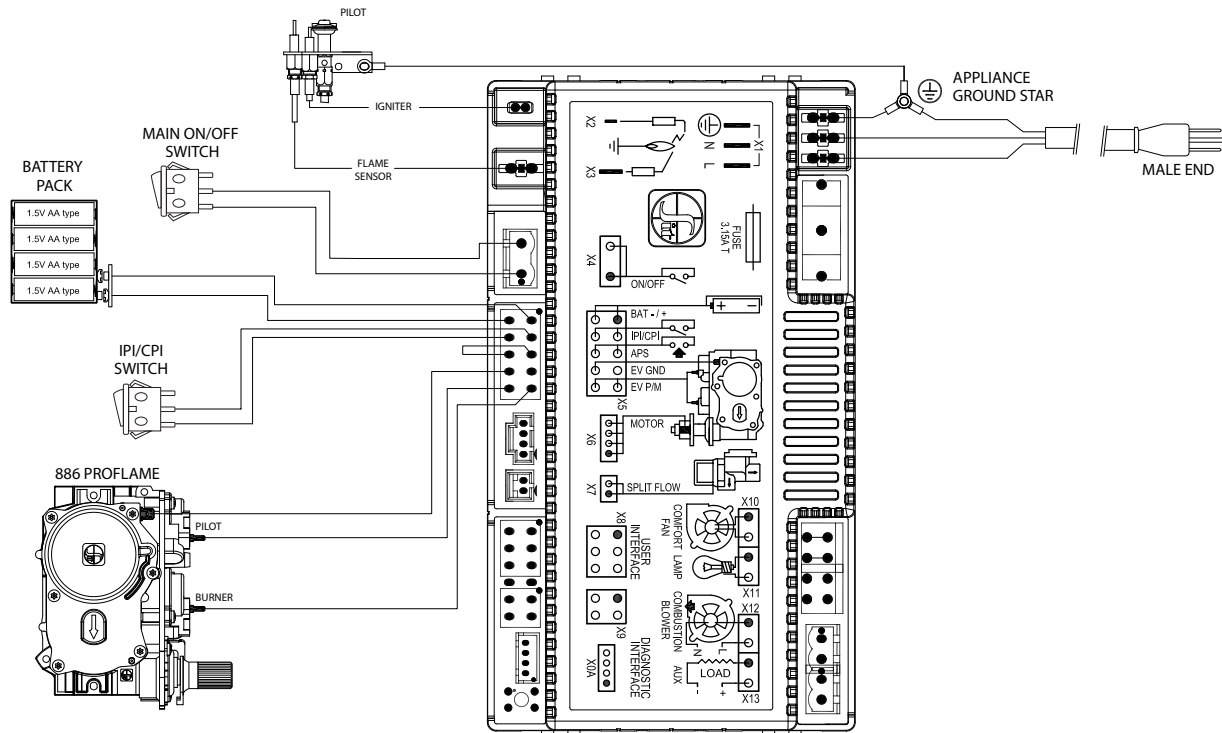

Figure 8.1, Electronic Gas Valve Wiring Schematic with ON/OFF Rocker Switch
- It is optional to disable the main ON/OFF rocker switch operating the main burner by disconnecting the wires from the control module (Figure 8.1).